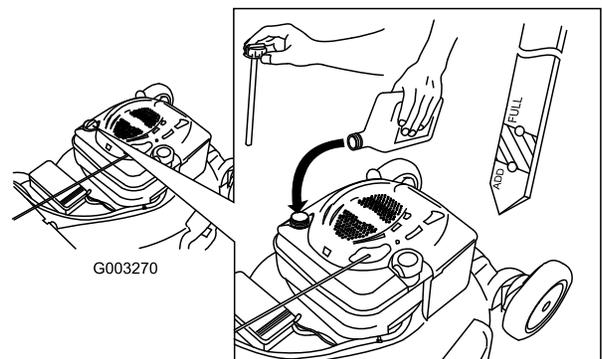

Figure 7
- 1. Remove the dipstick (Figure 7).
- 2. **Slowly** pour oil into the oil fill tube until the oil level reaches the Full line on the dipstick (Figure 7). **Do not overfill.** (Max. fill: 20 oz. (0.59 l), type: SAE 30